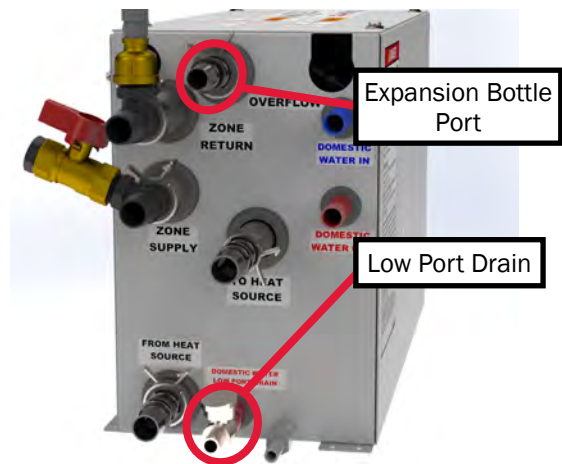

Figure 89
1. Completely drain the fresh water storage tank using the Low Port drain (Figure 89).